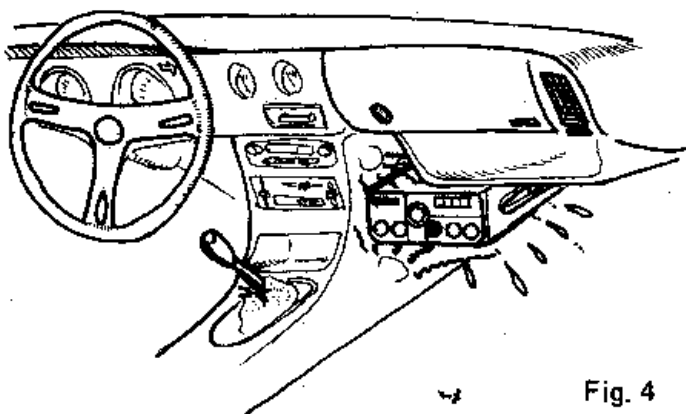

Fig. 4
- d) Avoid installing the set near the hot air exhaust outlet. (refer to Fig. 4).